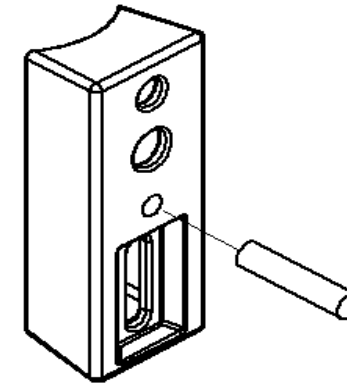

FIGURE 3A
3. Locate 1/2 x 2-1/4" long stud from bracket kit. With pole bracket in hand, thread stud by hand into CENTER threaded hole of bracket leaving 1-3/8" protruding from bracket face. See Figure 3A & B.